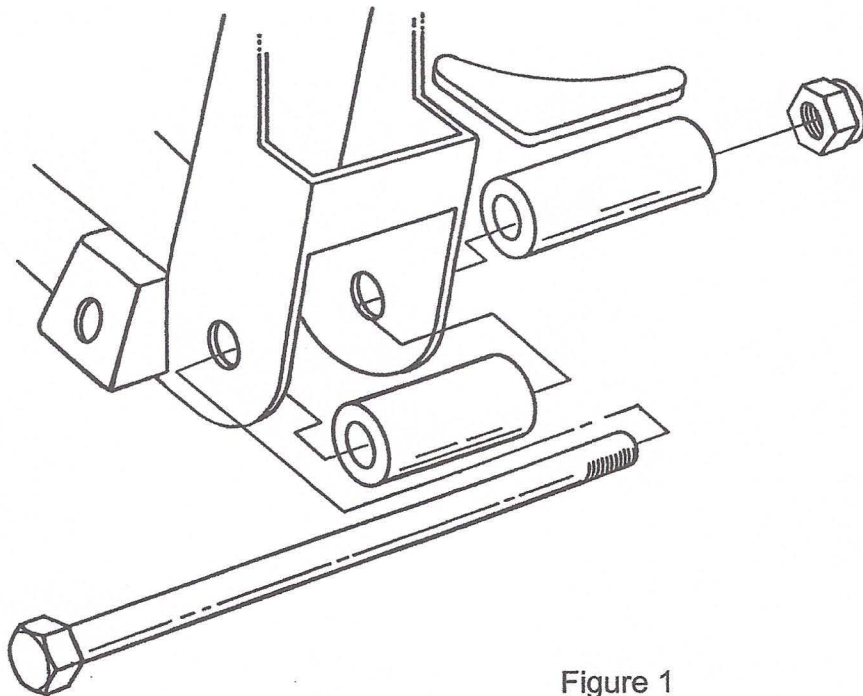

Figure 1
4. If you purchased a complete I.F.S. Package from *HEIDTS*, it was supplied with Full Lower A-Arms. Begin by installing the Spacers onto the crossmember. The holes where the lower control arms attach to the Crossmember must be enlarged to 5/8". Mount the Crossmember Spacers and the Rear Spacers which were supplied with the Lower Control Arms onto the Crossmember as shown in Figure 1 using the supplied Inner Bushing Bolts, Nuts and a temporary spacer under the Nuts. **DO NOT** use the A-Arms for this operation as the welding heat will melt the rubber bushings. Tighten the Bolts and Nuts tight. Weld the Rear Spacers to the Crossmember all around. Weld the Crossmember Spacers as far as possible inside the crossmember on both ends. Position the Gussets horizontally, not vertically, against the Rear Spacers and the back of the Crossmember. Weld Gussets to Spacers and Crossmember. When it cools, remove the bolt.